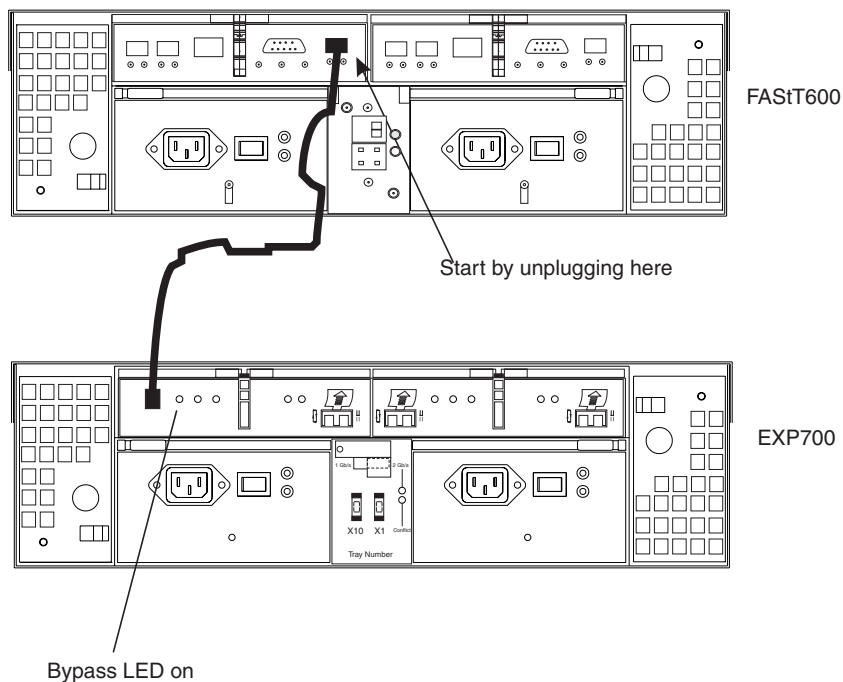

Figure 160. Copper cable and bypass light
1. Unplug one end of the FC copper cable in the loop element that has the bypass indicator light on. You can start at either cable end. For this example, start by unplugging the end that connects to the controller. See Figure 160.